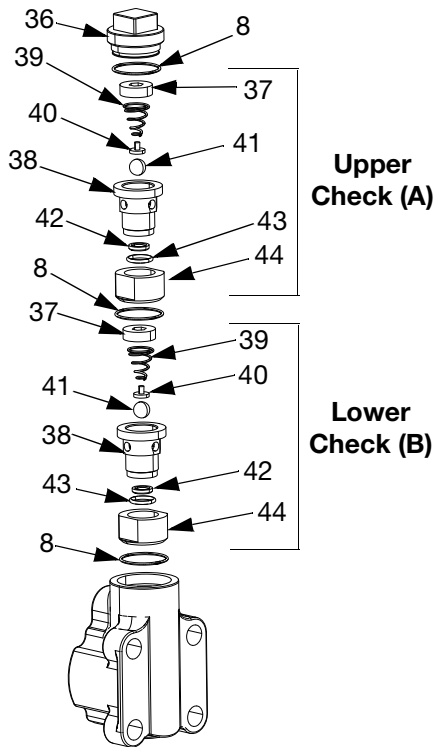

FIG. 5
3. Remove inlet cap (36) from inlet housing (6), and remove o-ring (8).
- a. Remove upper check (A), including the spring retainer (37), housing (38), spring (39), ball guide (40), ball (41), seat (42), o-ring (43), and seat retainer (44).
- b. Remove lower check (B), including the spring retainer (37), housing (38), spring (39), ball guide (40), ball (41), seat (42), o-ring (43), and seat retainer (44). See FIG. 5.